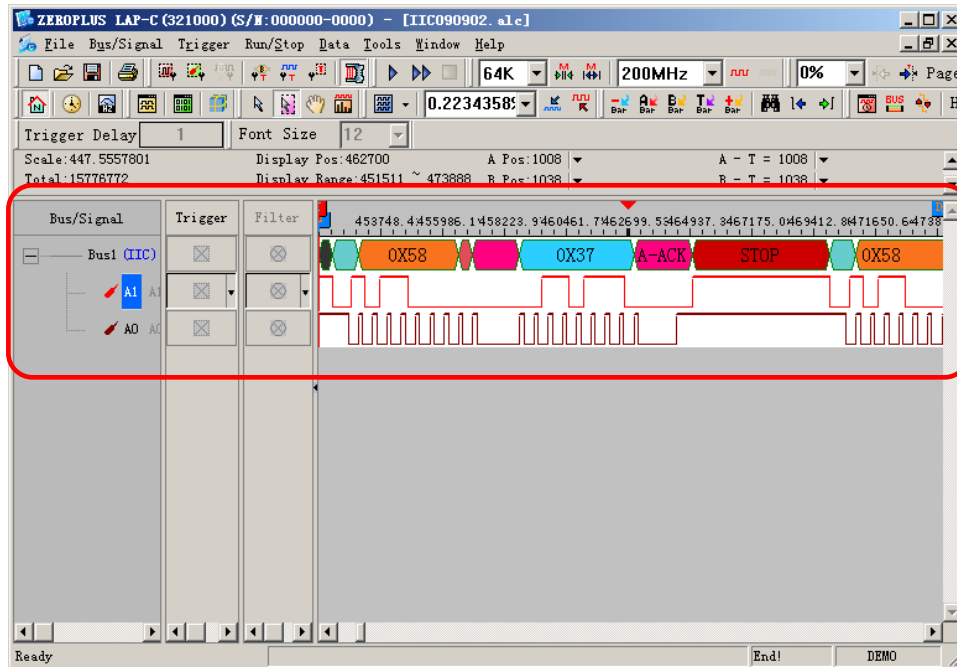

Fig 4-69 – Waveform Analysis
Step9. Click **Run** to acquire IIC signal from the tested IIC circuit. Refer to Fig 4-69.